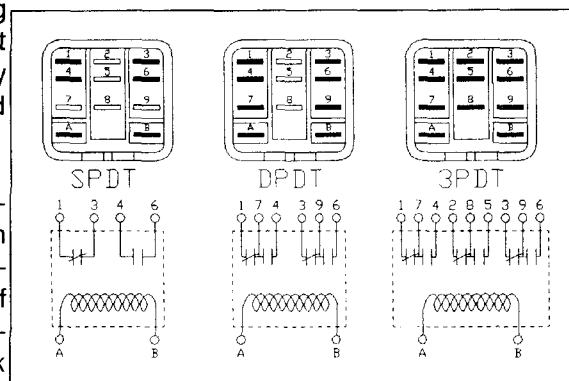

Figure 2 Class 389 Relay Contact Options
2) Next make the load control connections at the individual circuit breakers and apply appropriate control labels. A selection of either normally-closed or normally-open contacts are available. The normally-open contacts are intended for control of pilot relays. Class 389 relays are wired at the factory for normally-closed operation. This can be changed by moving the quick disconnects from normally-closed relay contacts (1 & 3) to normally-open contacts (4 & 6). See figure 2.